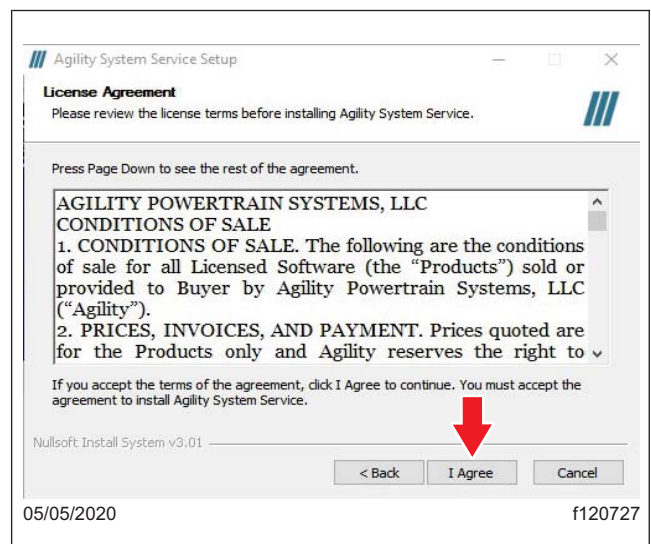

Fig. 6, Accepting the License Agreement
9. A license agreement window will open. Read the license agreement, then select the 'I Agree' box. See Fig. 6.